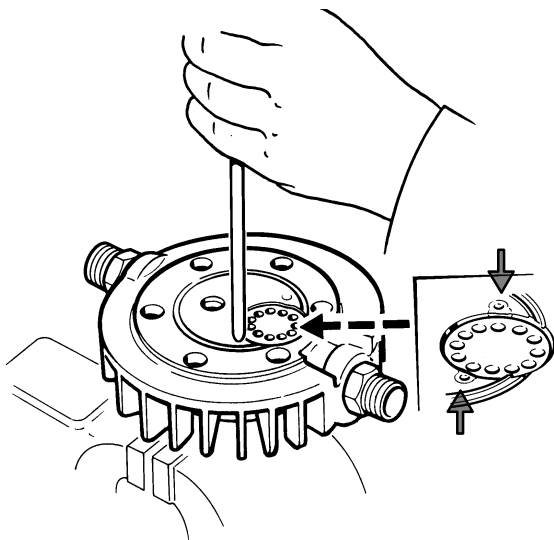

Fig. 19 Securing the intake valve
Peen the cylinder head aluminium on the screw-in thread of the intake valve in two places opposite one another with a small drift pin, diameter approx. 5 mm (Fig. 19).
- Secure the intake valve as follows: Peen the cylinder head aluminium on the screw-in thread of the intake valve in two places opposite one another with a small drift pin, diameter approx. 5 mm (Fig. 19).